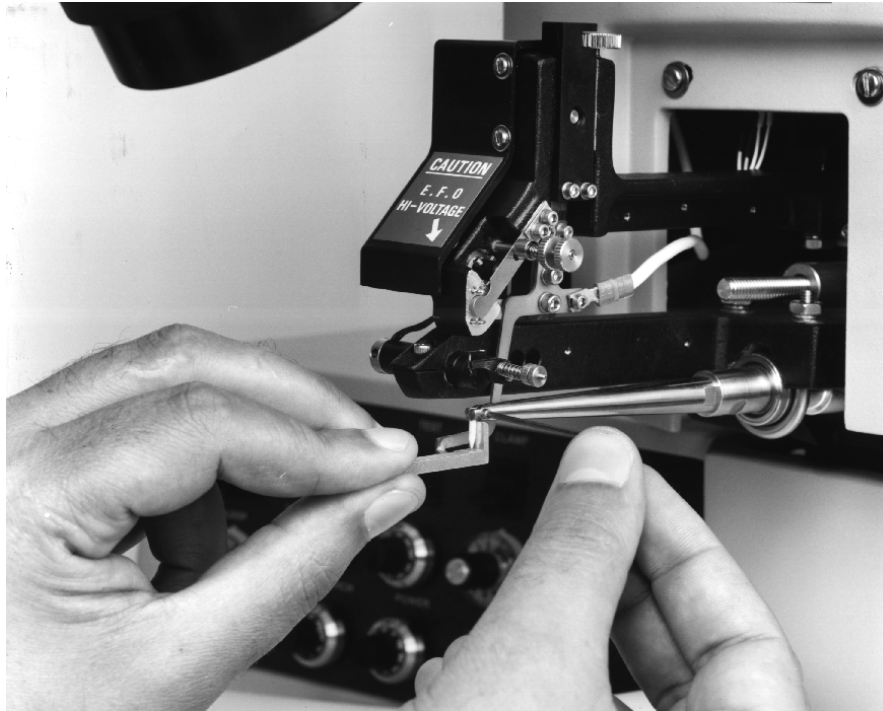

Figure 5-3: Capillary Insertion Using Setup Gauge - 4522, 4524
- 3 Position the setup gauge under the capillary (see Figure 5-3).
- 4 Loosen the set screw and gently push the capillary down until its tip just rests on the setup gauge (see Figure 5-3). Tighten the capillary set screw.